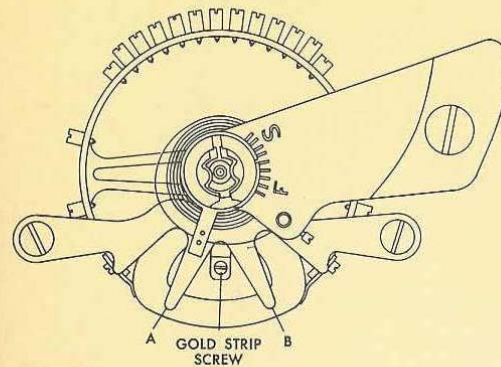

FIGURE 65
After blocking out the train, allow the balance to come to its rest position. This done, observe the position of the gold strip screw, Fig. 65, between the horns "A" and "B" of the upper shunt bridge. When the watch is in beat, the gold strip screw will be centered between the horns. As always, the hairspring collet is turned on the staff to put the watch in beat.
The crown of the watch should be pulled out to setting position, and then depressed to see if the watch will start itself. To make the watch self-starting, it may be necessary to make the gold strip screw favor the horn "A" (Fig. 65) of the upper shunt bridge. Although this will throw the watch slightly out of beat, it will aid in the self-starting of the watch by (1) bringing the trip jewel closer to the trip spring when the balance is at rest, and (2) causing the hairspring to be in a greater state of stress when the crown is in setting position.
However, care must be taken that the gold strip screw does not favor the horn "A" (Fig. 65) any more than is necessary to make this watch self-starting.